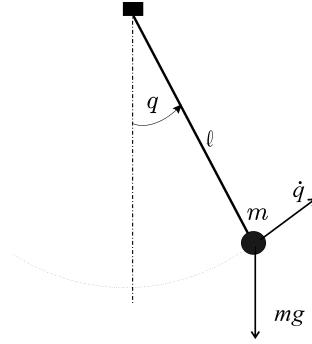

Figure 2.4: Simple pendulum as a conservative system
- 1) Let us consider the simple pendulum shown in Figure 2.4. This pendulum has a length of ℓ and is composed of a single point mass m . Calculate the Hamiltonian of the system. Deduce the state equations from this.